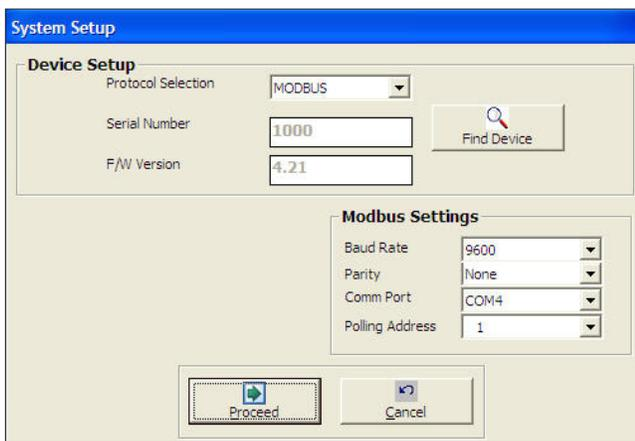
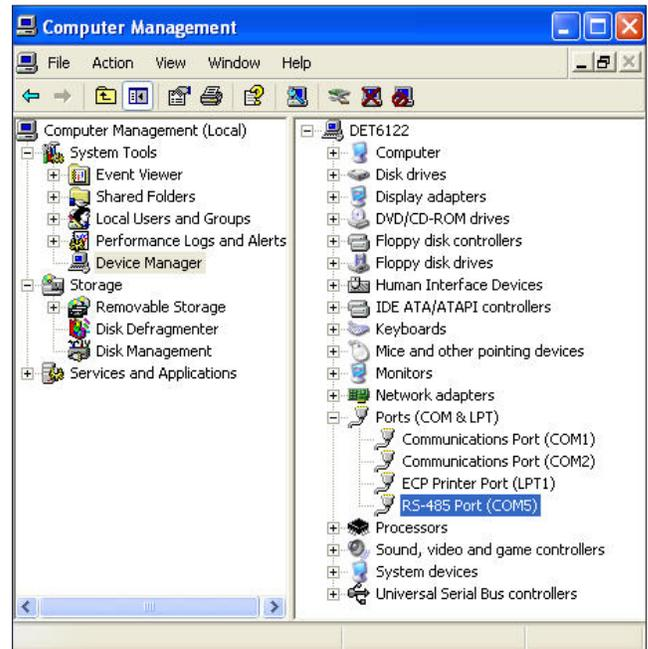

Figure 11—System Setup with Default Settings
Figure 12—Computer Management Window
All firmware versions of the FlexVu® UD10 are compatible with the latest Gas Inspector Monitor (1.6.xx). To take full advantage of the latest Gas Inspector Monitor features, the FlexVu UD10 firmware must be 2.80 or higher. The firmware version is located in the Systems Setup window (see Figure 11).
1. With the FlexVu UD10 in a normal operating mode, open Gas Inspector Monitor. The System Setup window will open with the recommended Modbus Settings of 9600 baud rate, no parity, and a polling address of 1 (Figure 11).
2. Verify that the appropriate PC Comm port is selected by looking in the Windows Device Manager for the correct setting. This is accomplished by right-clicking on My Computer (from the Start Menu), then select "Manage." When the Computer Management window appears, select Device Manager (Figure 12) and expand the menu tree for Ports (COM & LPT). Make sure the RS-485 Port is using the same Comm Port shown in the System Setup window (Figure 11).
1. To uninstall drivers, right-click on My Computer and select “Manage” to open the Computer Management window. Select “Device Manager” (Figure 12).